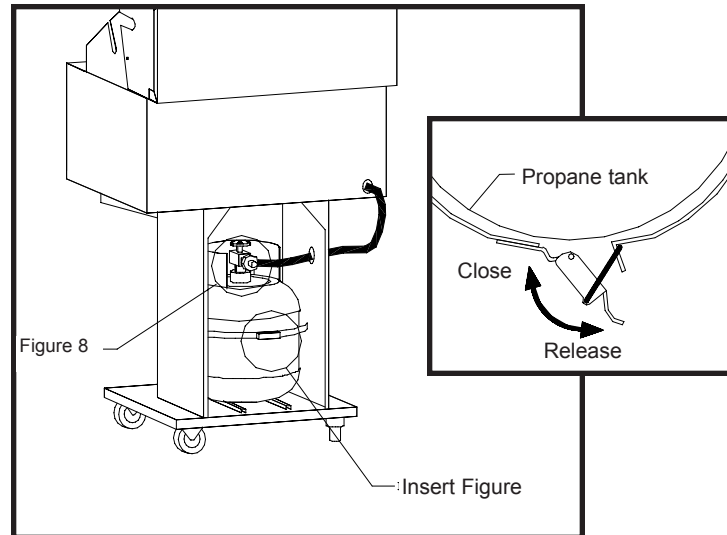

Figure 7. Gas Tank Placement
Procedure (See Figures 7 and 8):
6. Place the gas cylinder in the space provided in the base. (See Figure 7.) Remove the protective caps from Cylinder Valve in grill using the strap provided.